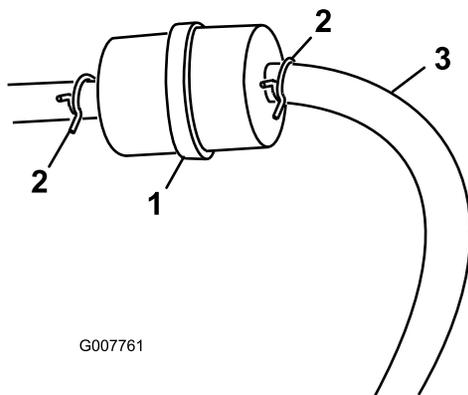

Figure 26
3. Squeeze the ends of the hose clamps together and slide them away from the filter (Figure 26).
5. Install a new filter and move the hose clamps close to the filter (Figure 26).
3. Loosen the hose clamp at the fuel filter and slide it up the fuel line away from the fuel filter (Figure 26).
4. Disconnect the fuel line from the fuel filter (Figure 26).
Note: Allow fuel to drain into a fuel container can or drain pan (Figure 26).
5. Install the fuel line onto the fuel filter. Slide the hose clamp close to the fuel filter to secure the fuel line (Figure 26).